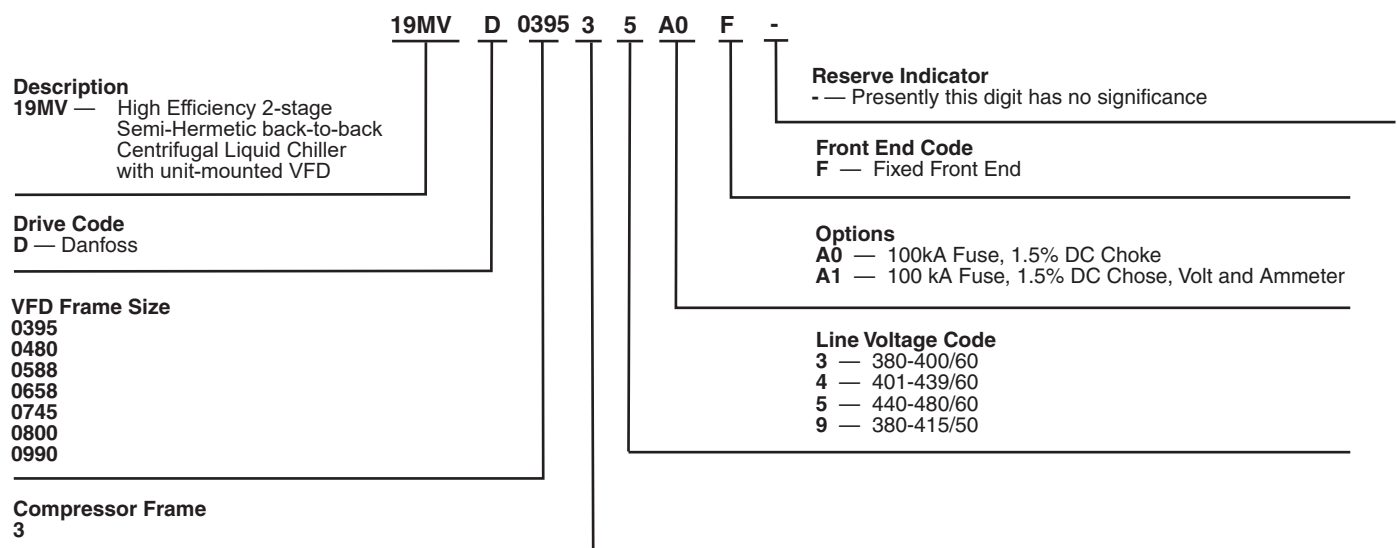
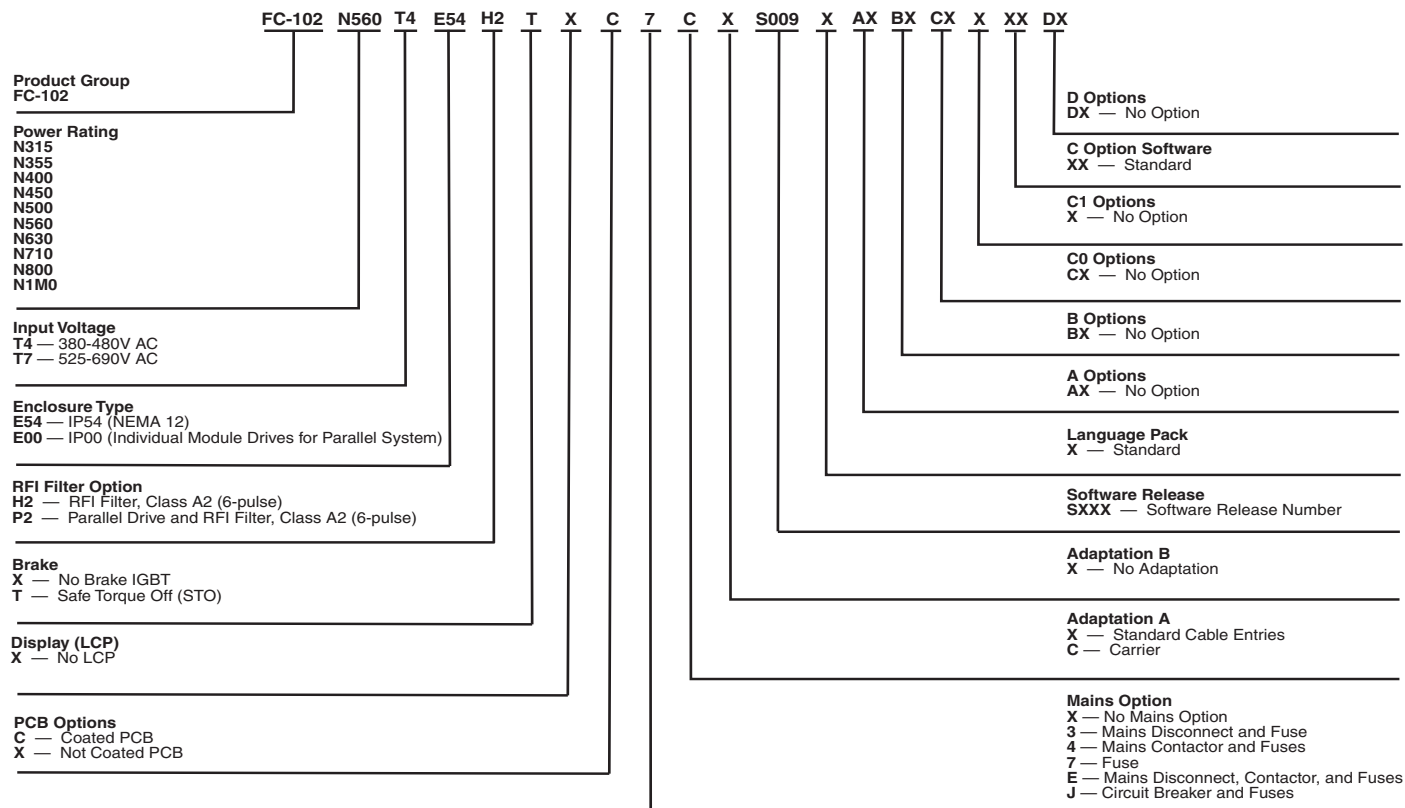

Fig. 12 — Carrier Part Number for 19MV Danfoss VFD
Fig. 13 — Example of Danfoss Type Code (TC) Breakdown
structured as shown in Fig. 12. An example of Danfoss Type Code (TC) Breakdown is shown in Fig. 13.